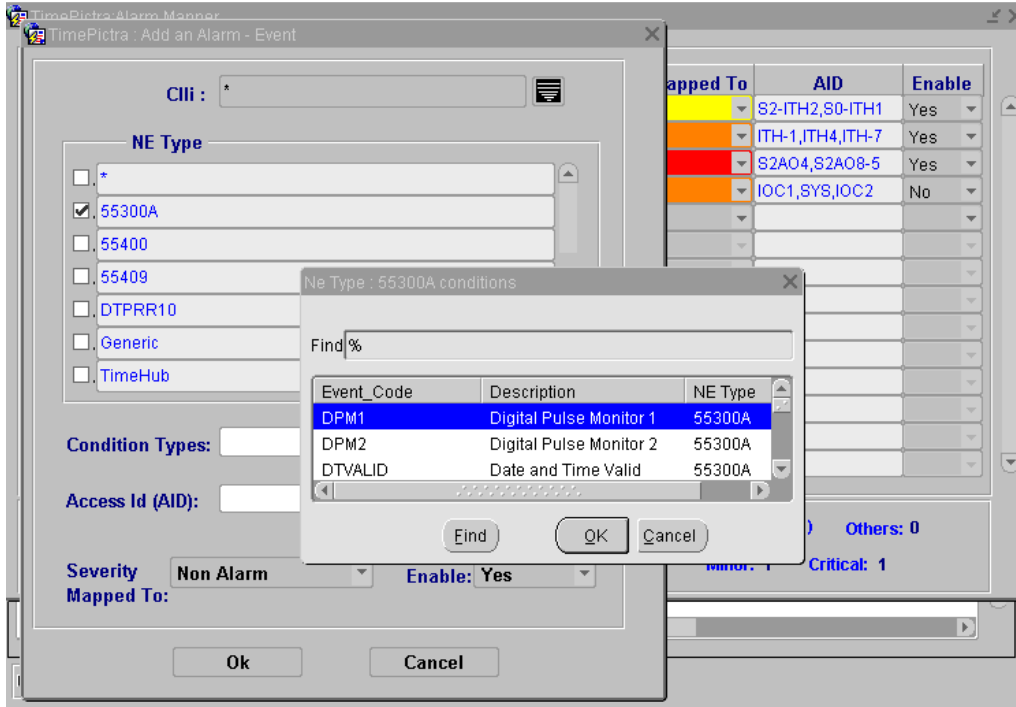

Figure 6-18. Alarm Mapping Condition Types Selection
- Click  located to the right of the Condition Types (i.e. name of alarm) text entry box to open the window that shows all condition types for a particular NE type (Figure 6-18). Select the desired event code or enter an event code in the Find text entry box and click **Find**. Or, click the small button to the right of the text entry box to open a text entry window and enter several comma separated condition types or an asterisk (*) to select all Condition Types, and click **OK**.